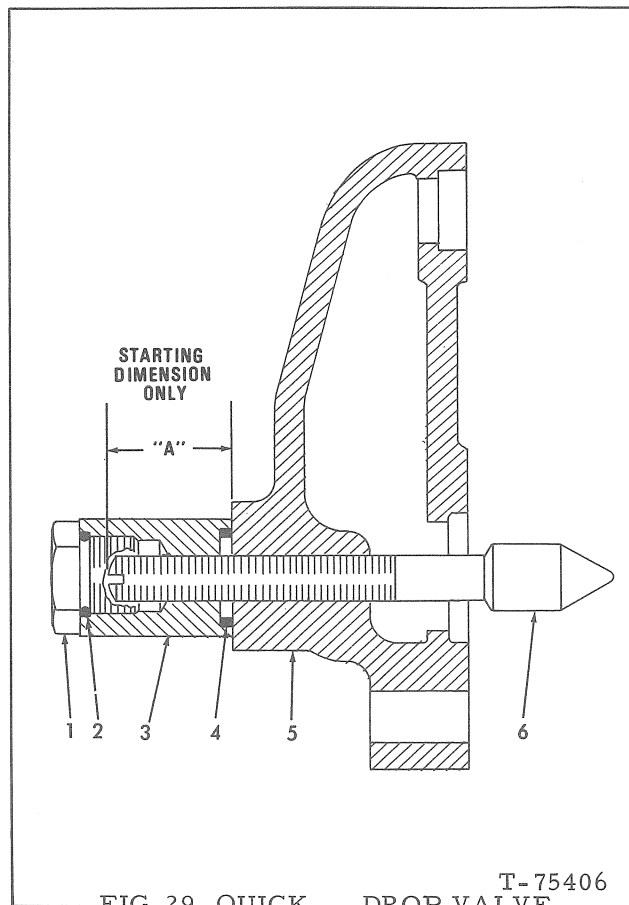

FIG. 29 QUICK -- DROP VALVE ADJUSTMENT
Position adjustment valve, Fig. 29 (6), in each valve head (5) to dimension "A" with nut (3) removed. This adjustment is an initial adjustment only; screwing valves in farther will decrease the distance operator must move control lever to make the moldboard drop; if the operator does not want a "touchy" control, the valves may be screwed out slightly.